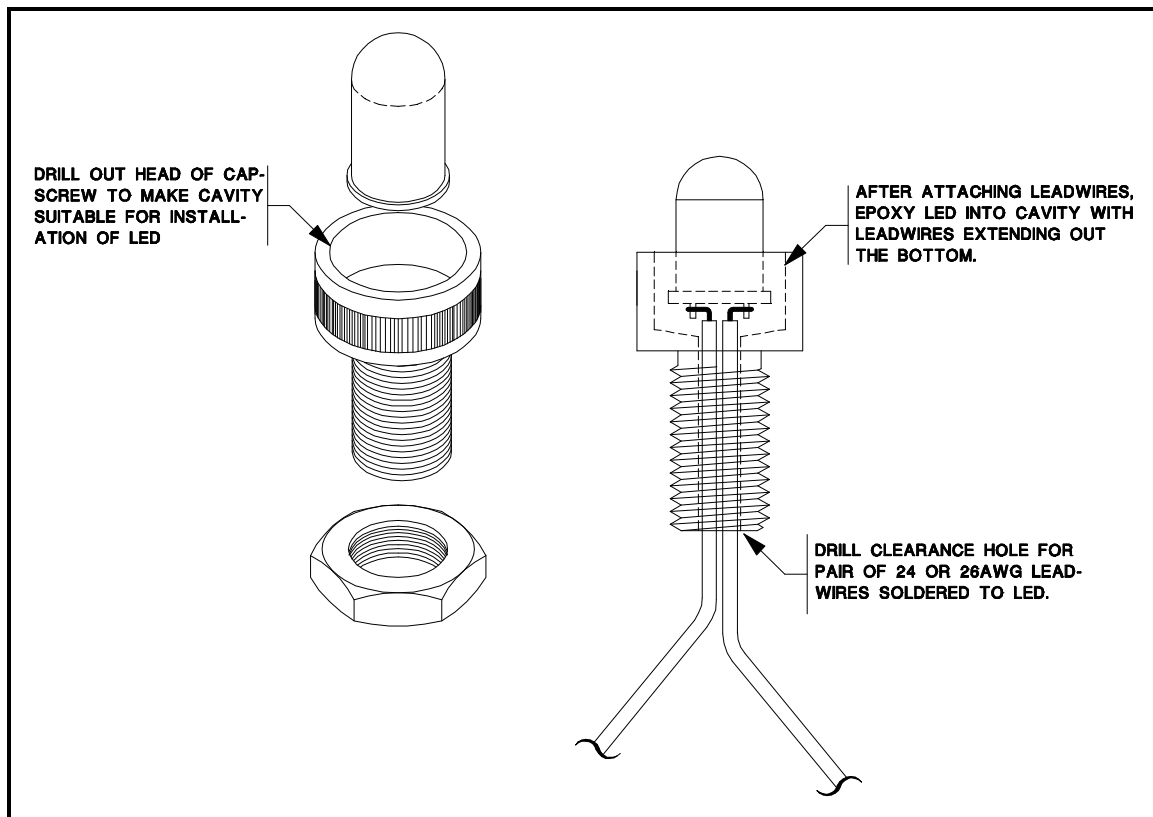

Figure 3. LED Mounting Suggestion.
resistant stranded conductors and (2) mount the device so that it's appearance is appropriate to an aircraft instrument panel. Figure 3 suggests one way to accomplish both goals. Drilling out a piece of standard threaded fastening hardware (in this case, a capscrew) can provide a sturdy pocket where small, stranded leadwires can be soldered to short stubs of the LED's original solid leadwires. An appropriate amount of 5 minute epoxy can be used to retain the LED and wires in a single, rugged assembly. The fixture is mounted on the panel by means of a single hole and mating nut on the back side.